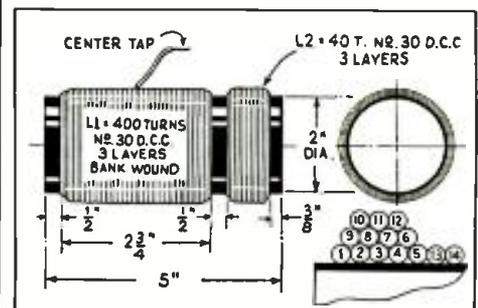

Fig. 2
- (2) Inverted-L with unshielded lead-in (Fig. 2).